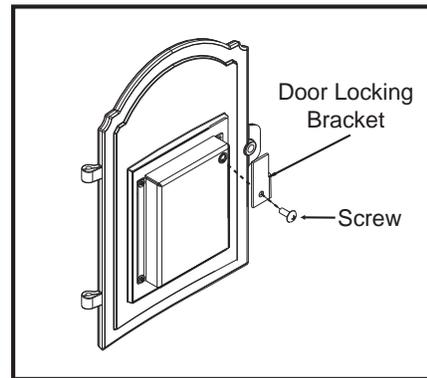

Figure 14.4
2. Using a Phillips head screwdriver, remove the screw from the locking bracket. **Figure 14.4.**